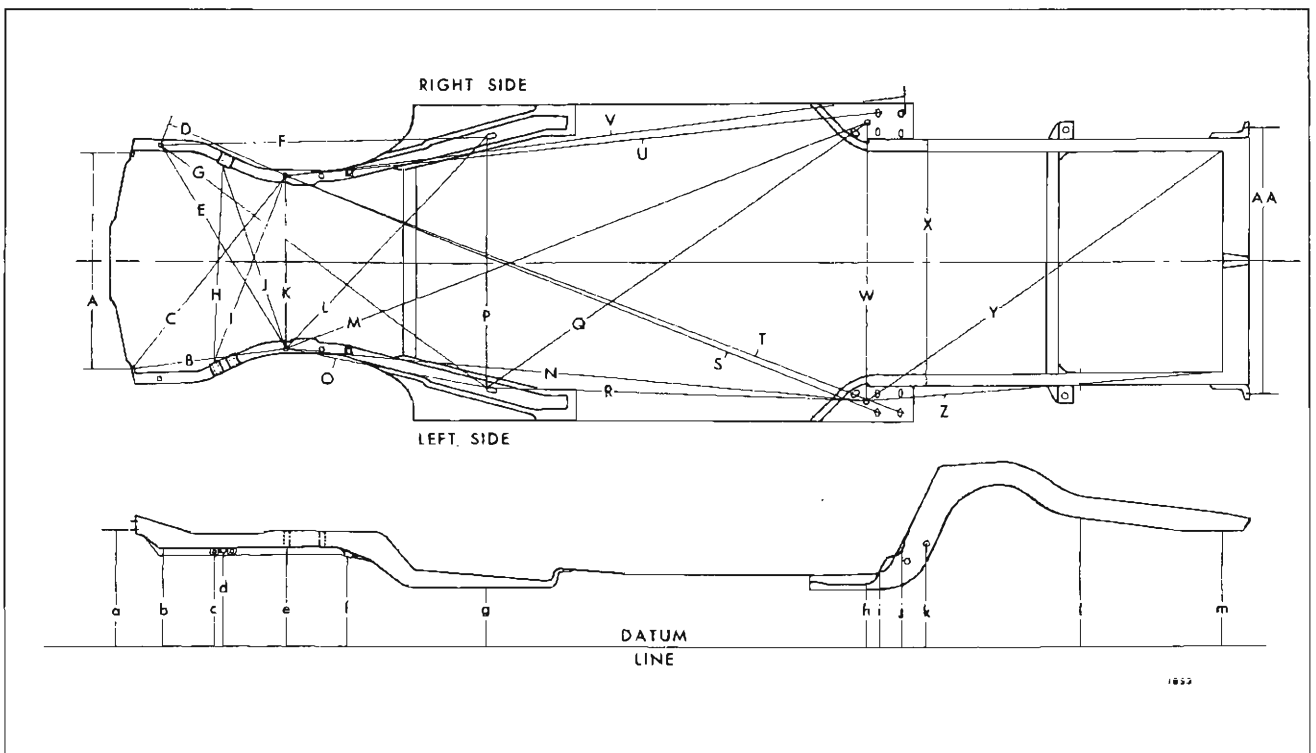

Fig. 3-2—Underbody Vertical Alignment Reference Points .
Dimensional checks indicated in the upper portion of Figure 3-2 are calculated on a horizontal plane parallel to the plane of the underbody. Precision measurements can be made only if the tram gage is also parallel to the plane of the underbody. This can be controlled by setting the vertical pointers on the tram gage according to the dimensional checks shown in the lower portion of Figure 3-2. For actual dimensions, see charts in text.
**Point Dimensions—(Fig. 3-2)**
**Horizontal Dimensions (Fig. 3-2)**